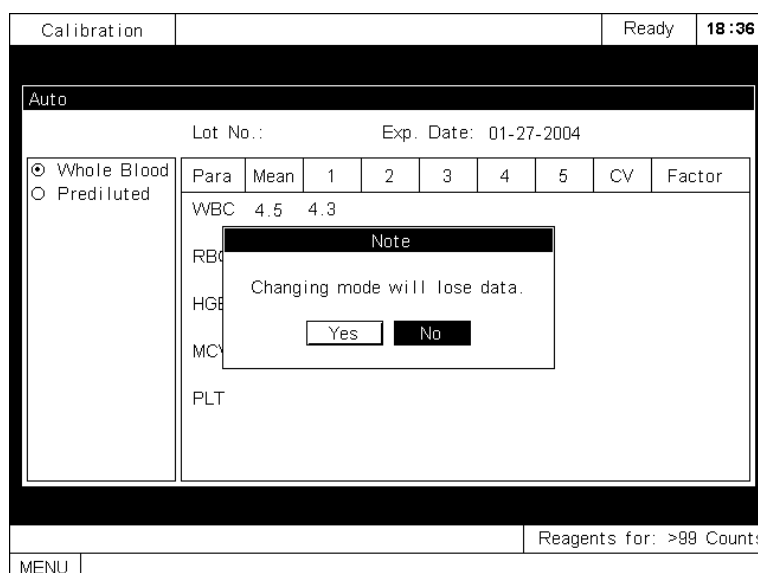

Figure5-16 Warning dialog box
- If the valid results are less than three (the CV and new factors are not available yet) : If you press [F1], a dialog box will pop up to warn you about the data loss, as Figure5-16 shows.